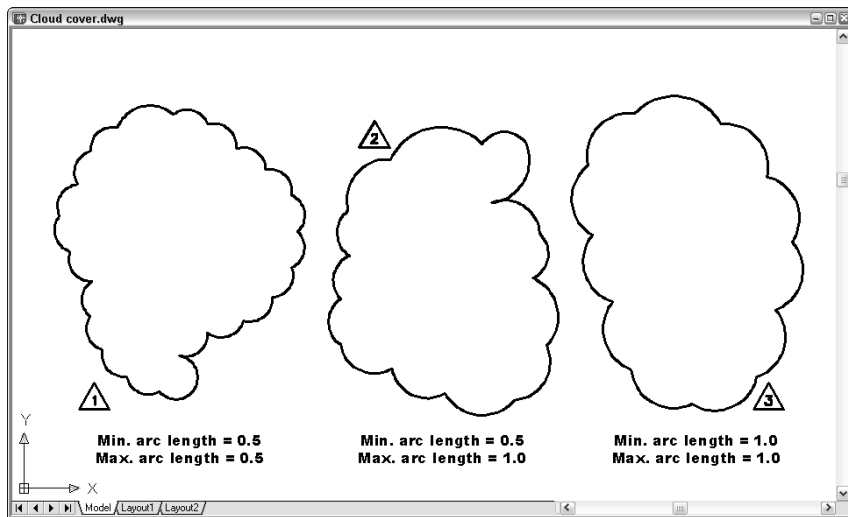

Figure 6-11:
The following command line example shows you how to draw a revision cloud. Figure 6-11 shows what revision clouds look like.
- ✔ You may need to add a triangle and number, as shown in Figure 6-11, to indicate the revision number. A block with an attribute is a good way to handle this requirement: Chapter 13 covers blocks and attributes.